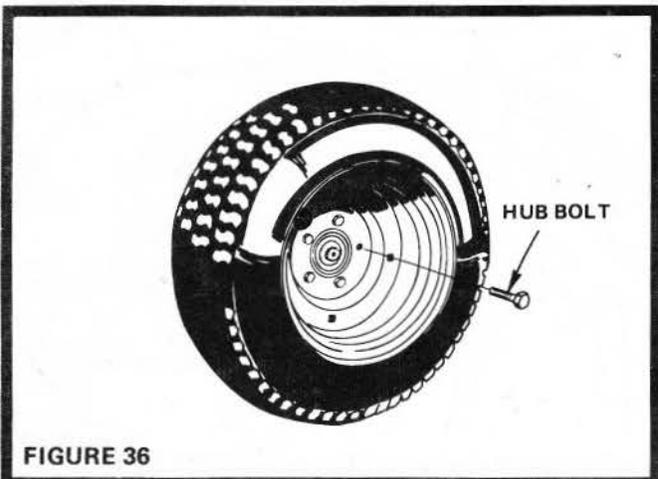

FIGURE 36
- Block up Rear Axle securely or use a Tractor Jack. Remove left Rear Wheel by removing Hub Bolts (Fig. 36).
- e. Removing rear wheel for tire repair (Fig. 36).
- Remove (5) Hub Bolts to allow wheel removal.